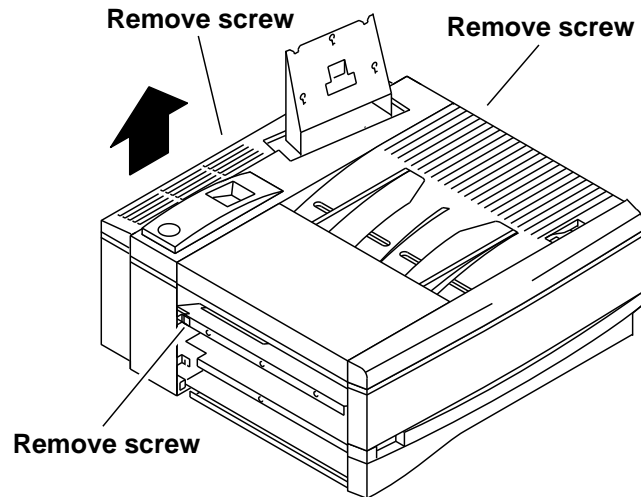

Figure 2. Rear cover removal
- c. Remove left rear cover screw (Figure 2).